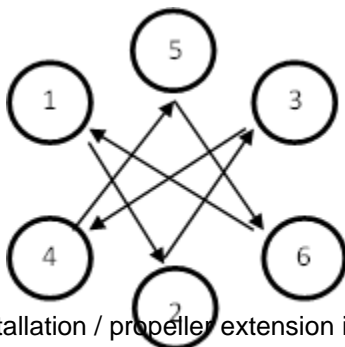

Figure 52: Propeller installation / propeller extension installation torque pattern.
Bolts / nuts should be torqued in the following sequence (as indicated in Figure 52) when securing the propeller extension to the engine hub or when securing a propeller to the propeller extension.
- Torque the bolts securing the propeller assembly to the propeller extension to the correct value (refer to paragraph 1.5.2). Torque in a star pattern / sequence as shown in Figure 52).